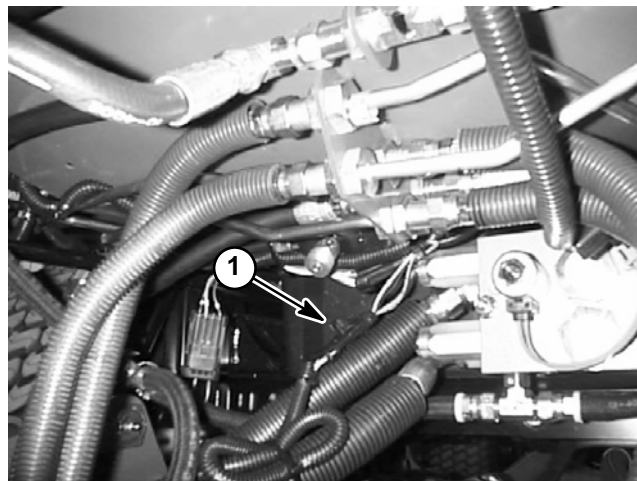

Figure 5
6. Disconnect cutting deck wire harness from main machine harness (Fig. 5).
6. Connect cutting deck wire harness to main machine wire harness (Fig. 5).